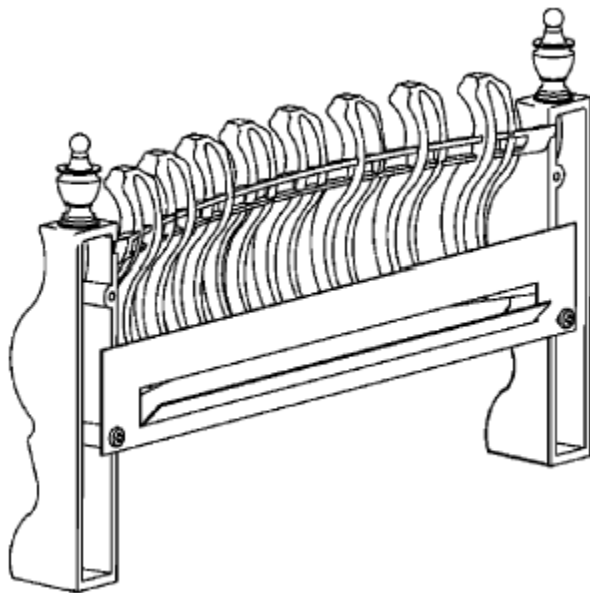

Figure 32. Casting baffle.
1. The firefront casting is supplied with a black baffle fitted to its rear. This has to be removed and replaced with the firefront casting baffle supplied with the fire. To do this remove the two screws on the rear of the casting (See figure 32) and remove the existing baffle.